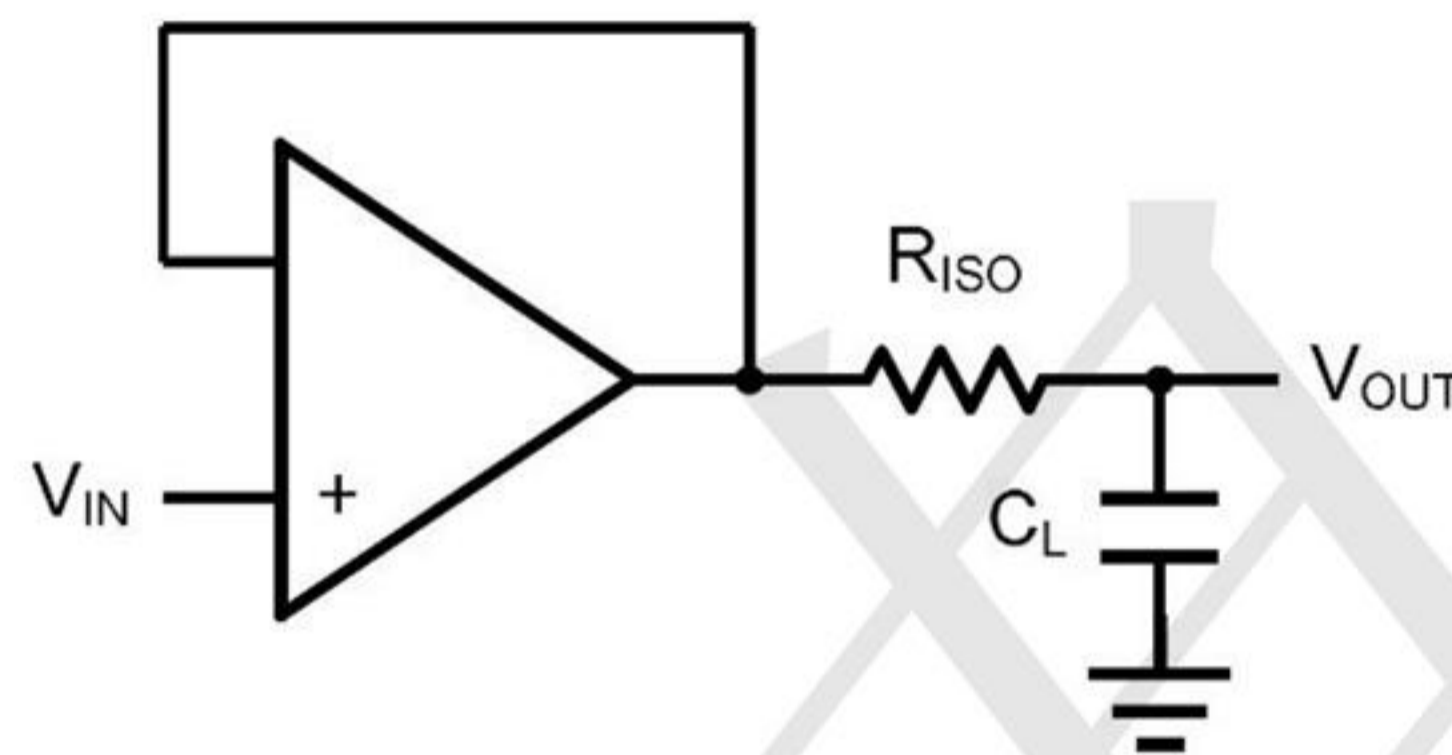
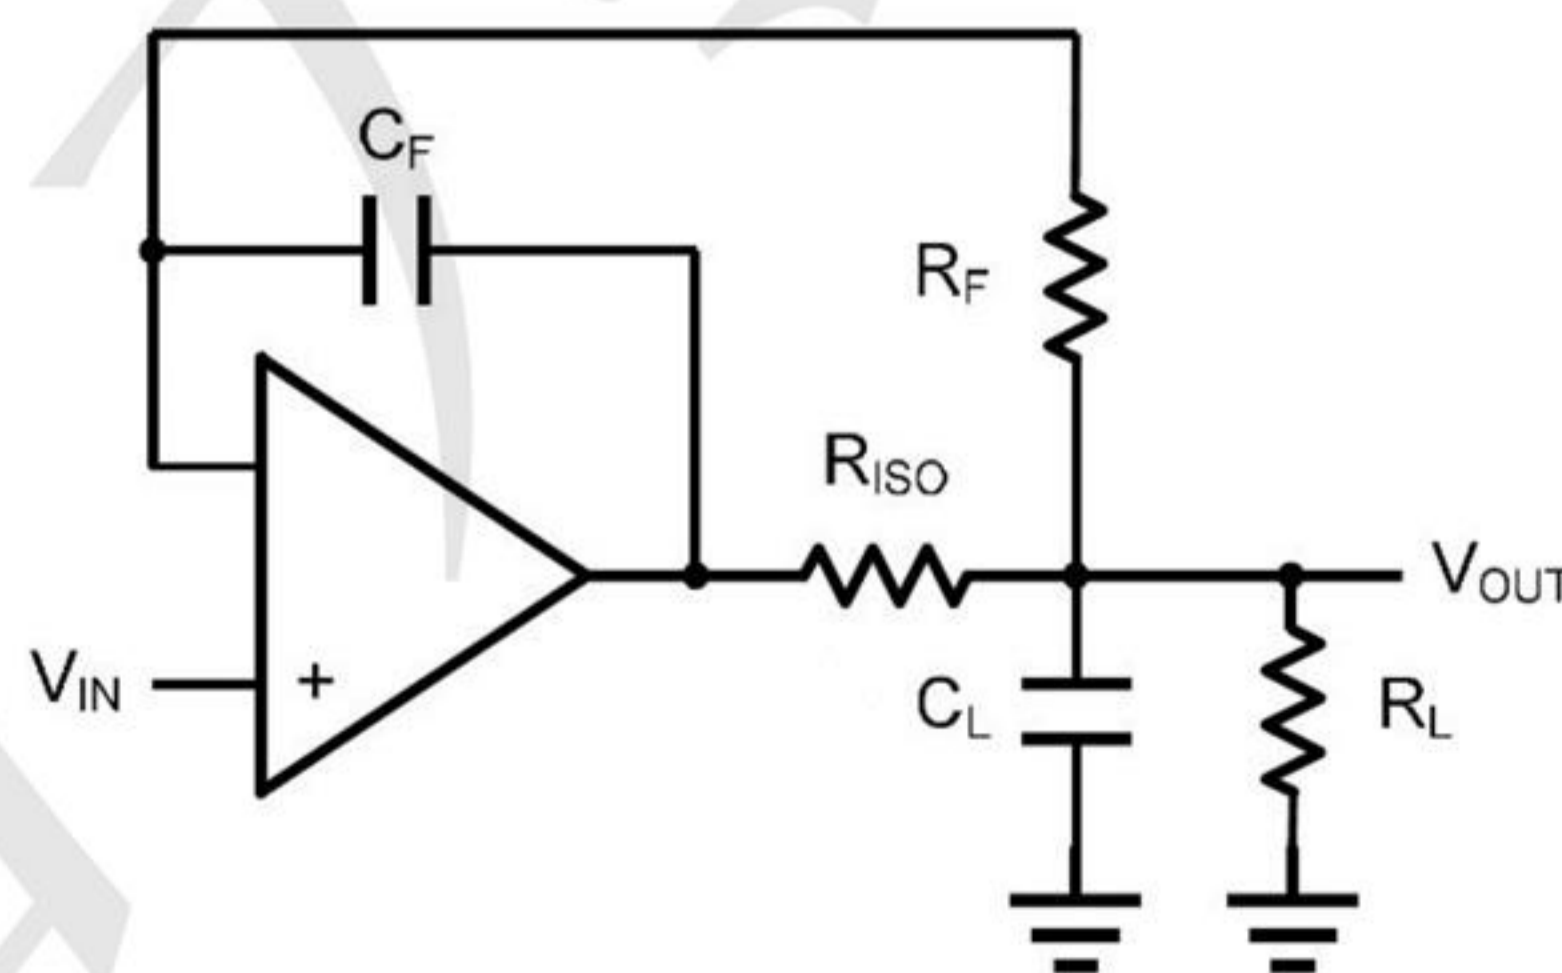

Figure 2. Indirectly Driving a Capacitive Load Using Isolation Resistor
Figure 3. Indirectly Driving a Capacitive Load with DC Accuracy
The TPV863X family is optimized for bandwidth and speed, not for driving capacitive loads. Output capacitance will create a pole in the amplifier's feedback path, leading to excessive peaking and potential oscillation. If dealing with load capacitance is a requirement of the application, the two strategies to consider are (1) using a small resistor in series with the amplifier's output and the load capacitance and (2) reducing the bandwidth of the amplifier's feedback loop by increasing the overall noise gain. Figure 2. shows a unity gain follower using the series resistor strategy. The resistor isolates the output from the capacitance and, more importantly, creates a zero in the feedback path that compensates for the pole created by the output capacitance.
The circuit in Figure 3 is an improvement to the one in Figure 2.  $R_F$  provides the DC accuracy by feed-forward the  $V_{IN}$  to  $R_L$ .  $C_F$  and  $R_{ISO}$  serve to counteract the loss of phase margin by feeding the high frequency component of the output signal back to the amplifier's inverting input, thereby preserving the phase margin in the overall feedback loop. Capacitive drive can be increased by increasing the value of  $C_F$ . This in turn will slow down the pulse response.